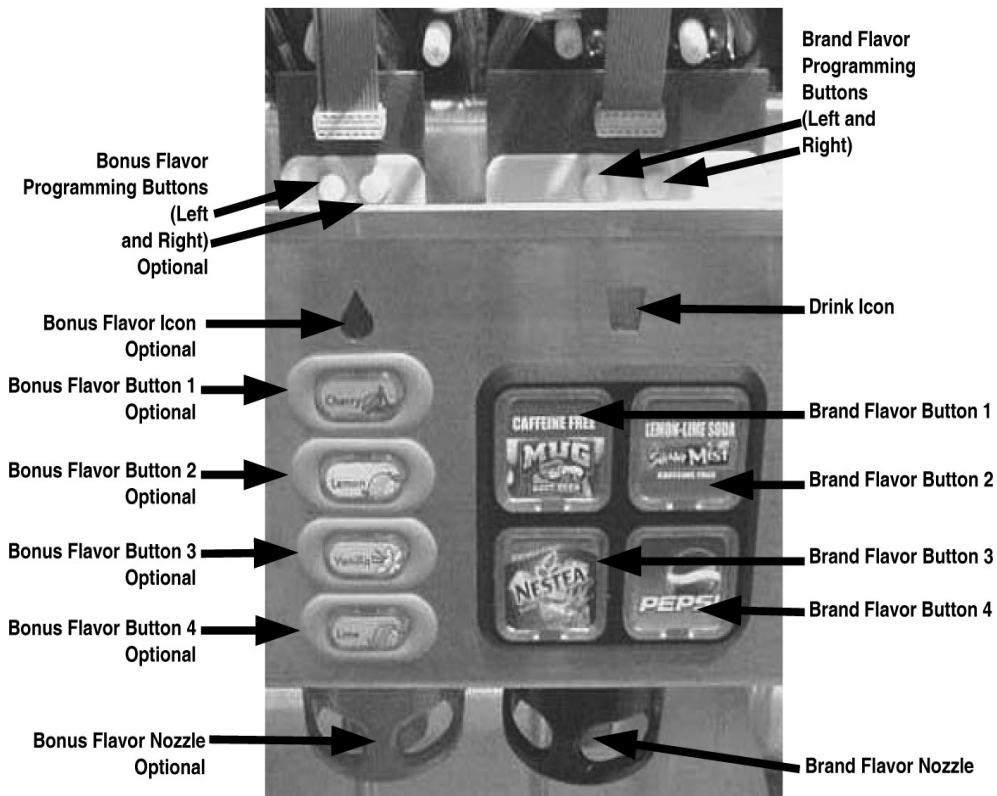

Figure 4.
5. Connect the beverage system product tubes as indicated in applicable Flow Diagram, Figure 4 or Figure 8. This work should be done by a qualified service person.